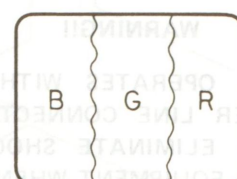

Fig. 4-3.
7. Adjust the purity magnet control to center the vertical green band on the screen as shown in Fig. 4-3.